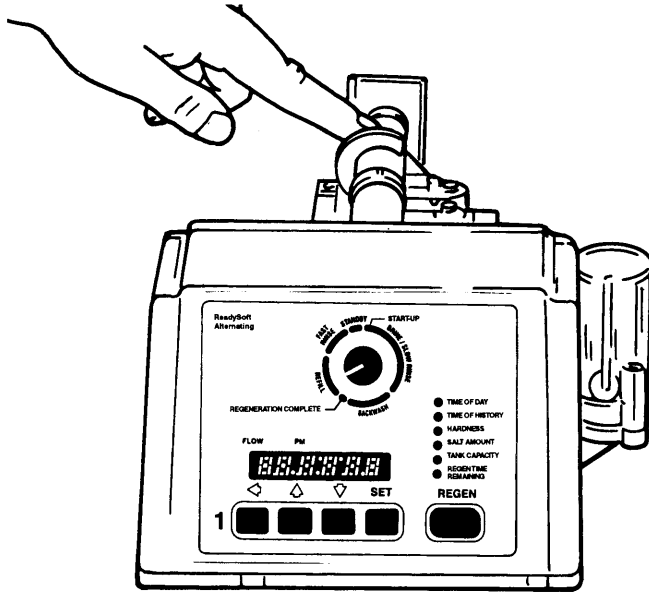

Figure 16
5. To remove the camshaft or re-install it, the rib on the shaft must be pointing straight up. This occurs when the indicator knob is rotated to the refill position. Press down on the back of the camshaft to disengage it from the rear "hoop" of the top plate, Figure 16.